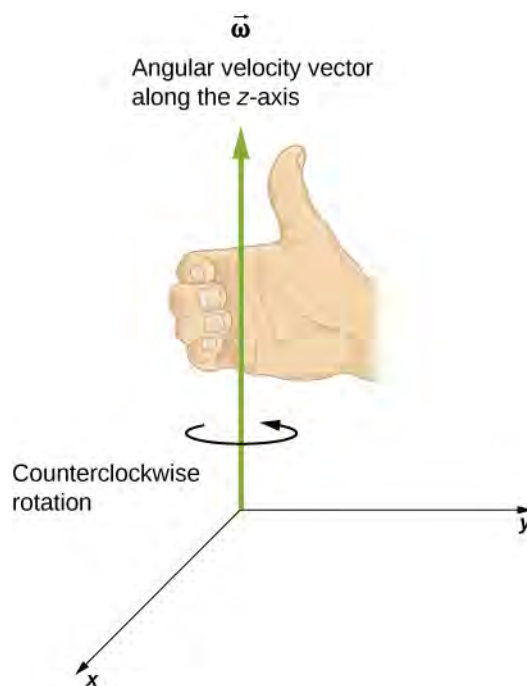

Figure 10.5 For counterclockwise rotation in the coordinate system shown, the angular velocity points in the positive z-direction by the right-hand-rule.
Up until now, we have discussed the magnitude of the angular velocity $\omega = d\theta/dt$, which is a scalar quantity—the change in angular position with respect to time. The vector $\vec{\omega}$ is the vector associated with the angular velocity and points along the axis of rotation. This is useful because when a rigid body is rotating, we want to know both the axis of rotation and the direction that the body is rotating about the axis, clockwise or counterclockwise. The angular velocity $\vec{\omega}$ gives us this information. The angular velocity $\vec{\omega}$ has a direction determined by what is called the right-hand rule. The right-hand rule is such that if the fingers of your right hand wrap counterclockwise from the x-axis (the direction in which θ increases) toward the y-axis, your thumb points in the direction of the positive z-axis (**Figure 10.5**). An angular velocity $\vec{\omega}$ that points along the positive z-axis therefore corresponds to a counterclockwise rotation, whereas an angular velocity $\vec{\omega}$ that points along the negative z-axis corresponds to a clockwise rotation.
In the same way as we defined the vector associated with angular velocity $\vec{\omega}$, we can define $\vec{\alpha}$, the vector associated with angular acceleration (Figure 10.7). If the angular velocity is along the positive z-axis, as in Figure 10.5, and $\frac{d\omega}{dt}$ is positive, then the angular acceleration $\vec{\alpha}$ is positive and points along the +z- axis. Similarly, if the angular velocity $\vec{\omega}$ is along the positive z-axis and $\frac{d\omega}{dt}$ is negative, then the angular acceleration is negative and points along the -z-
- We are given the rotational sense of the turbine, which is counterclockwise in the plane of the page. Using the right hand rule (**Figure 10.5**), we can establish the directions of the angular velocity and acceleration vectors.